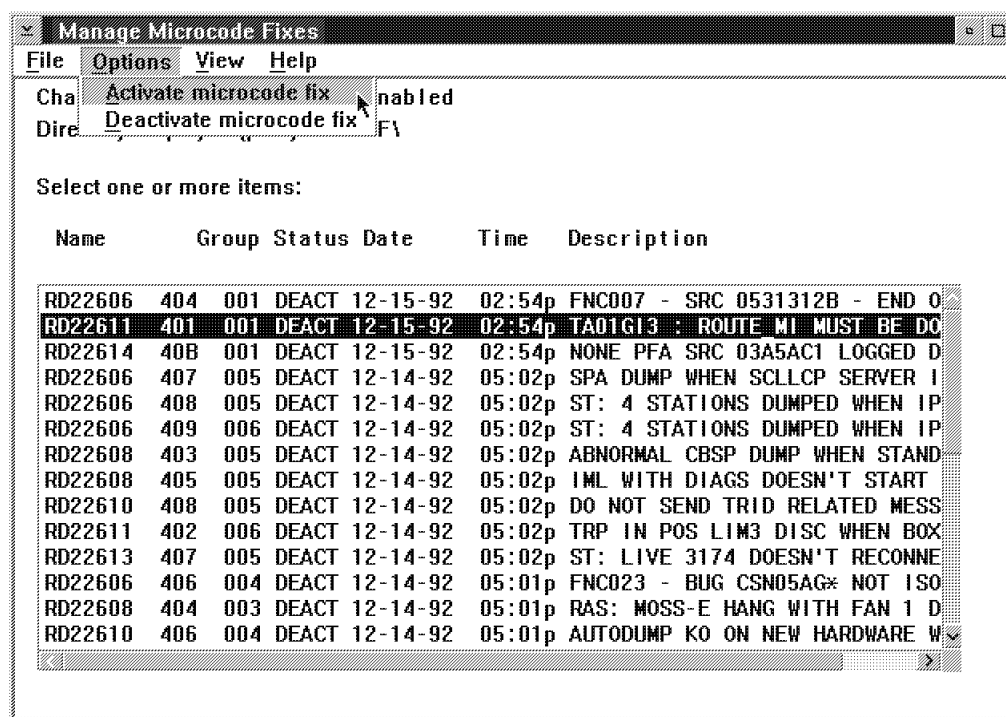

Figure 2-13. Manage Microcode Fixes
18. Click on the lines of the MCFs to be applied (see example in the Figure 2-13).